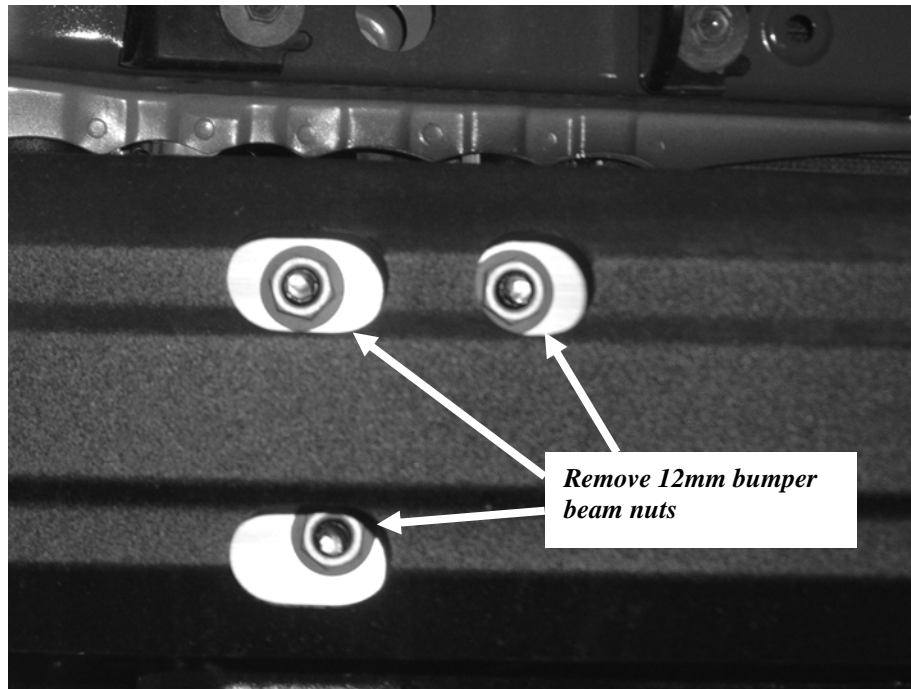

Figure 8 Bumper beam RH
12. Remove the three(3) 12mm nuts from each side of the bumper beam. These are located in the slots in the face of the beam. Pull the driver's side free first. **Figure 8**